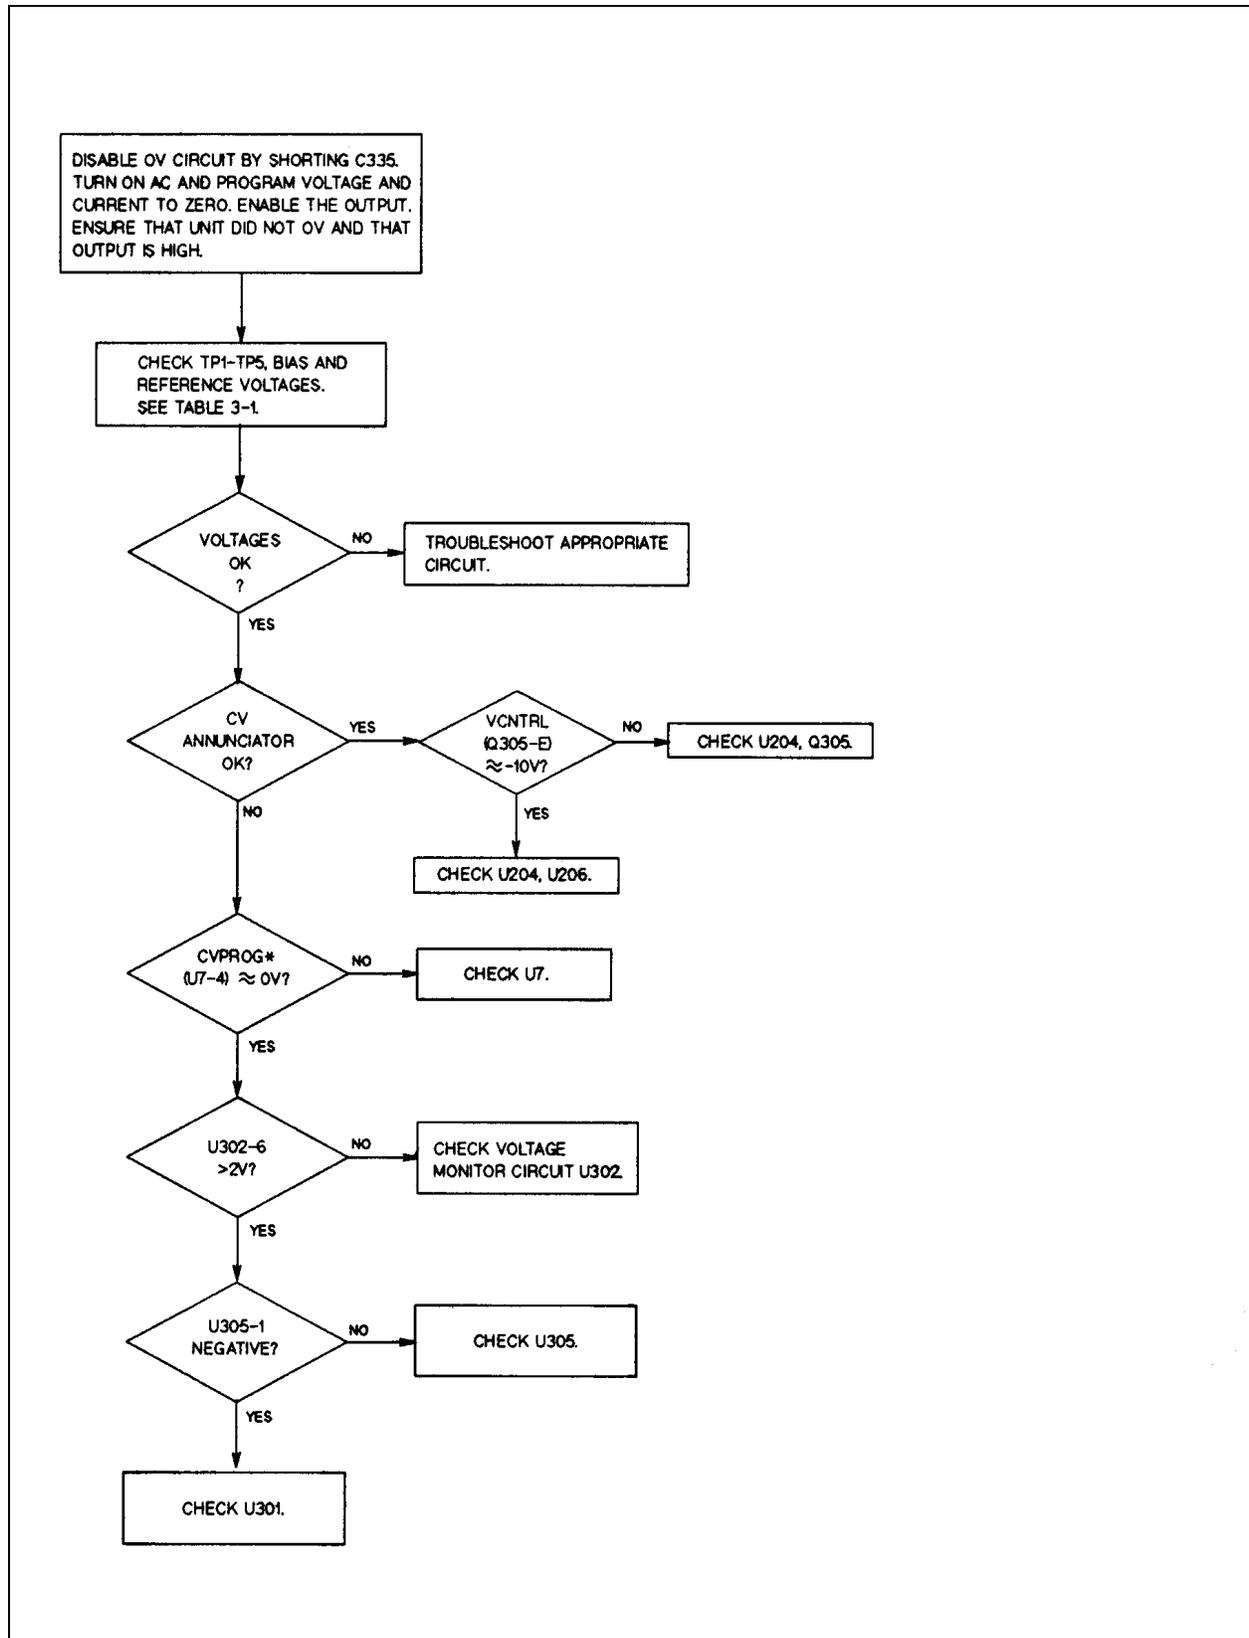

Figure 3-6. Troubleshooting High Output
- ↳ Figure 3-6 - Troubleshooting High Output